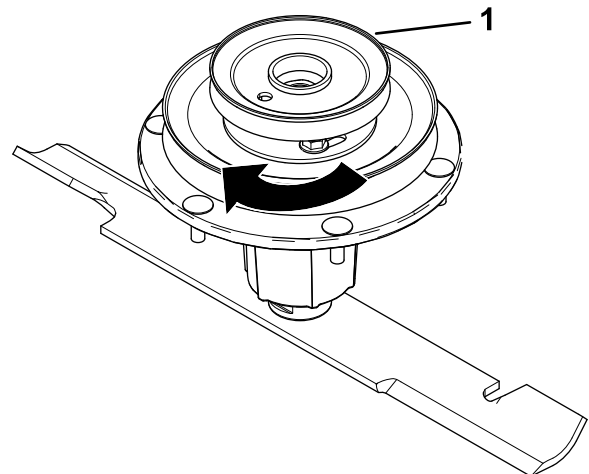

Figure 6
7. Turn the pulley to lock it into position (Figure 6).